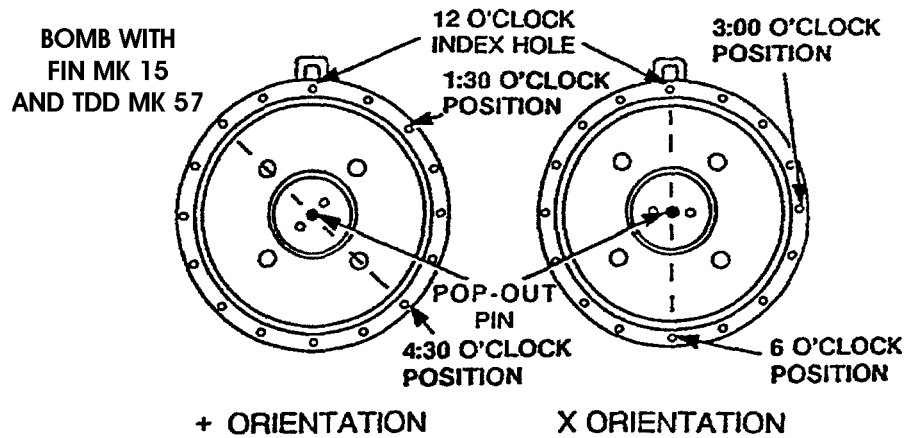

Figure 4-9D. Pop-Out Pin Orientation
- d. Ensure pop-out pin has been oriented for + or X fin orientation (Figure 4-9D).
- e. X Fin Orientation: Position fin near aft end of bomb, align fin support index pin with fourth index hole clockwise on bomb body, and bend ends of TDD warning tag pin together (Figure 4-9D).
- f. + Fin Orientation: Position fin near aft end of bomb, align fin support index pin with second index hole clockwise on bomb body, and bend ends of TDD warning tag pin together (Figure 4-9D).